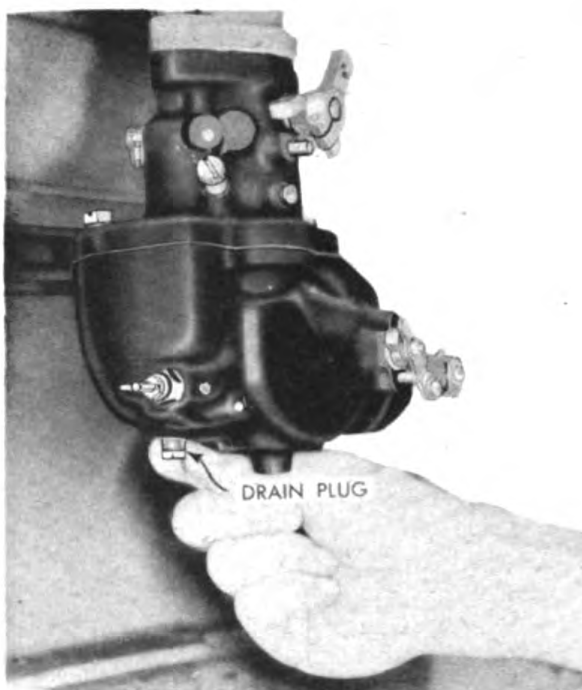

Figure 9. Close up view of carburetor showing location of drain plug.
1. Open the drain plug on the bottom of the carburetor and crank the engine until the gasoline flows. See Figure 9.
empty contents, and clean and replace the bowl. Push the starter button, or crank the engine by hand until gasoline flows. This assures that no water from condensation has frozen, thereby restricting the flow of gasoline. Also remove drain plug from carburetor (see Figure 9); if no gasoline runs out, insert a short wire to see if the opening is plugged with ice; if ice has formed, thaw the carburetor by either pouring hot water over it, or heat a brick or stone and hold it against the carburetor bowl. (DANGER: Do not use a blow torch on the carburetor.) When the gasoline flows through, insert drain plug and continue to turn the engine over as advised above until full of fuel.